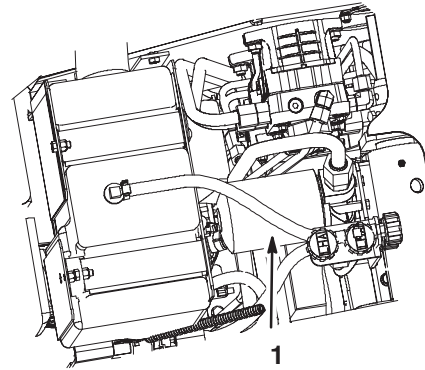

Figure 63
4. Place a drain pan under the filter (Fig. 63).
5. Remove the old filter (Fig. 63) and wipe the surface of the filter adapter gasket clean.
7. Install the replacement hydraulic filter onto the filter adapter (Fig. 63). Tighten it clockwise until the rubber gasket contacts the filter adapter, then tighten the filter an additional 3/4 turn.